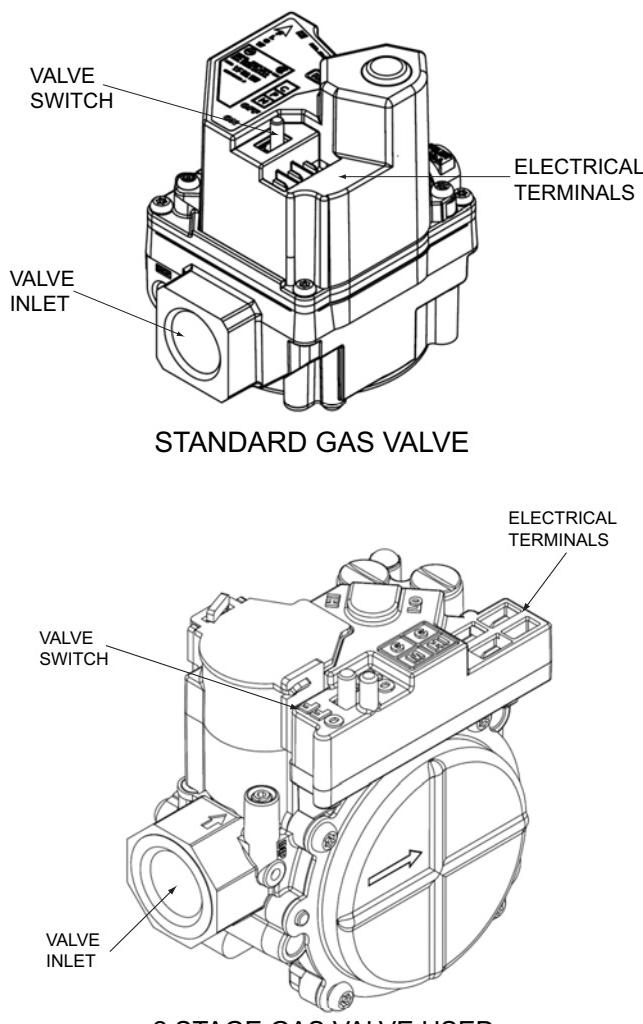

FIGURE 25 - TYPICAL GAS VALVES
3. Turn gas valve knobs to on position (Refer to Figure 25).
2. Depress knob of gas valve while turning to off position or move switch to off position. (Refer to Figure 25).
Small adjustments to the gas flow may be made by turning the pressure regulator adjusting screw on the automatic gas valve. Refer to Figure 25.